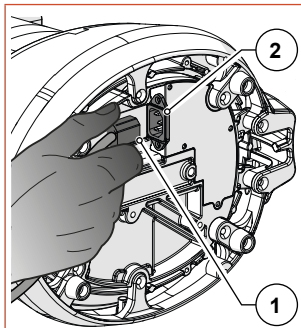

Fig. 6
- Put the power cable plug (Fig. 6 Part 1) into the IEC connector on the bottom of the appliance (Fig. 6Part 2);